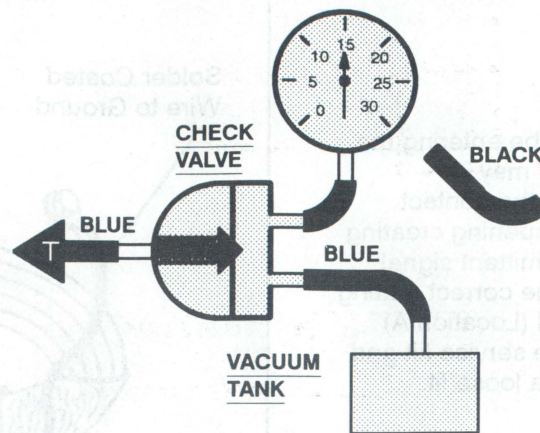

Figure 1 - System Supply Test
1. Connect Vacuum Tester to system side of Check Valve (Figure 1).